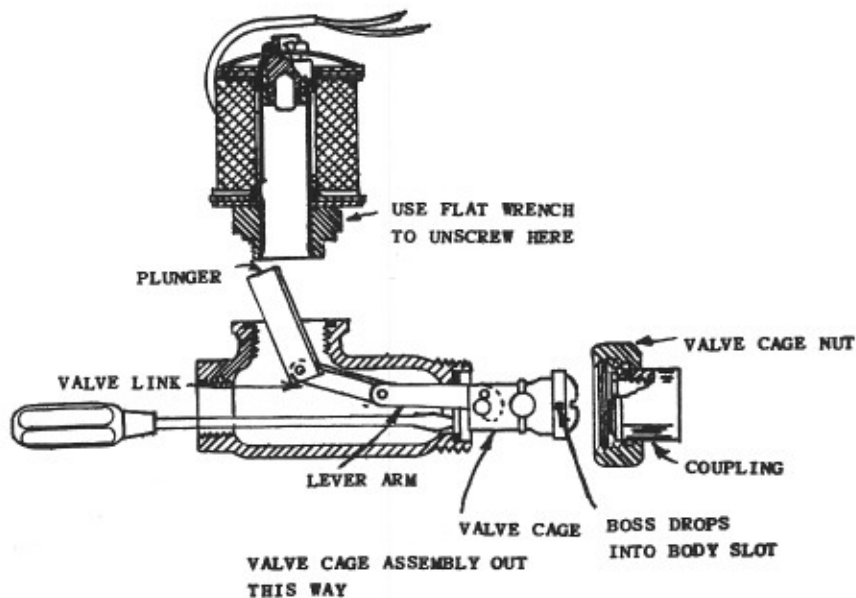

FIGURE 193
6. Insert screw driver through back end of valve as shown in Figure 193. Tap with palm of hand to force valve cage assembly out. **DO NOT USE PLIERS TO PULL THIS ASSEMBLY OUT SINCE IT IS A MACHINED FIT AND SHOULD NOT BE DISTORTED.**